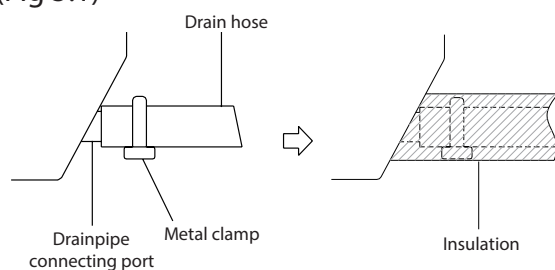

Fig. 5.1
2. Attach the mouth of the drain hose to the unit's outlet pipe. Sheath the mouth of the hose and clip it firmly with a pipe clamp. (Fig 5.1)